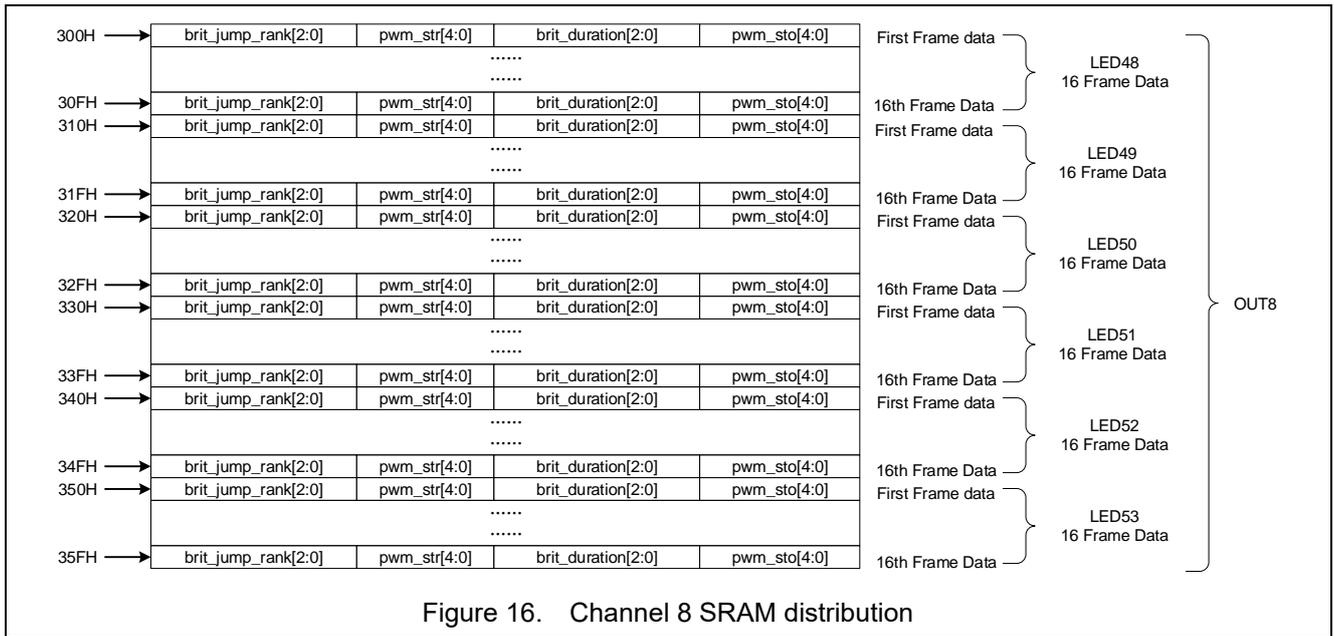

Figure 16. Channel 8 SRAM distribution
2. Each LED lights have 16 frame data, corresponding to the address on the left side of the figure 16, such as LED48 16 frame corresponding to the light address is 300H to 30FH, similar to other lights.